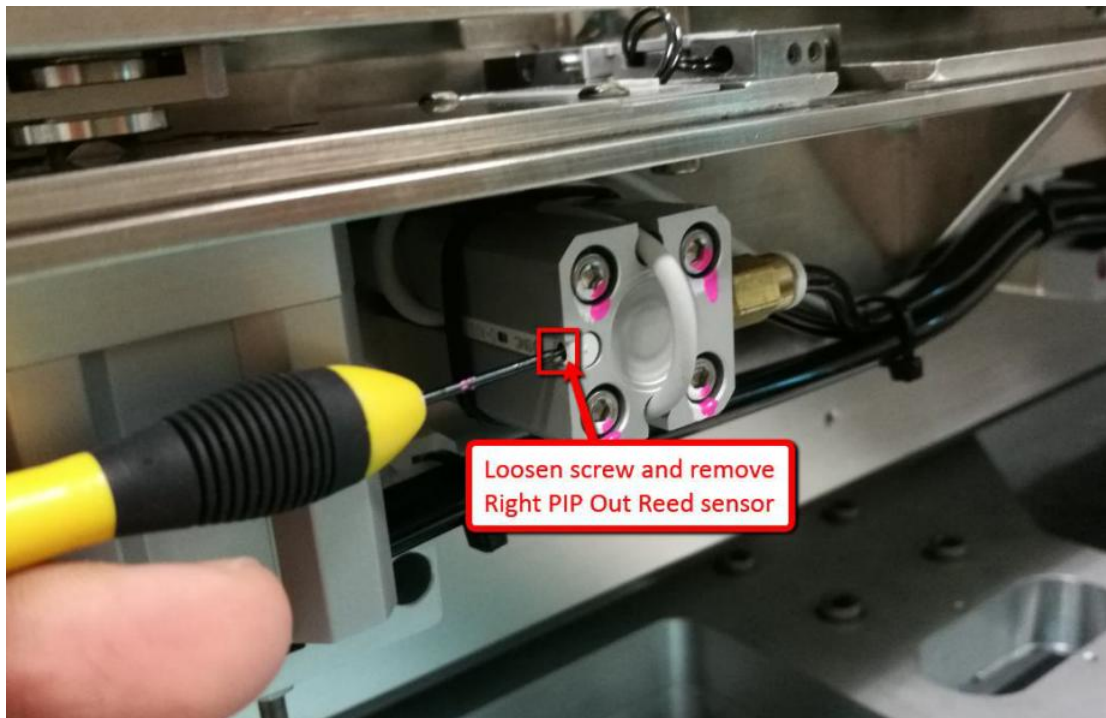

Figure 39 Right PIP Out Reed Sensor Removal
6. Loosen screw and remove Right PIP Out Reed Sensor from PIP Cylinder as shown in Figure 39 below.